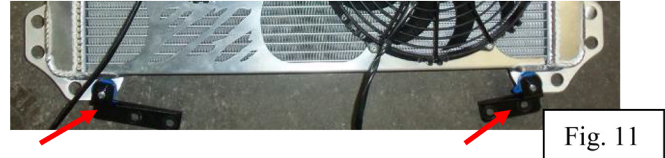

Fig. 11
- Attach the Roush bottom brackets to the back side and bottom of the AFCO heat exchanger using the supplied 13mm bolts and washers. Leave these bolts loose to allow movement for the installation (Fig. 11).